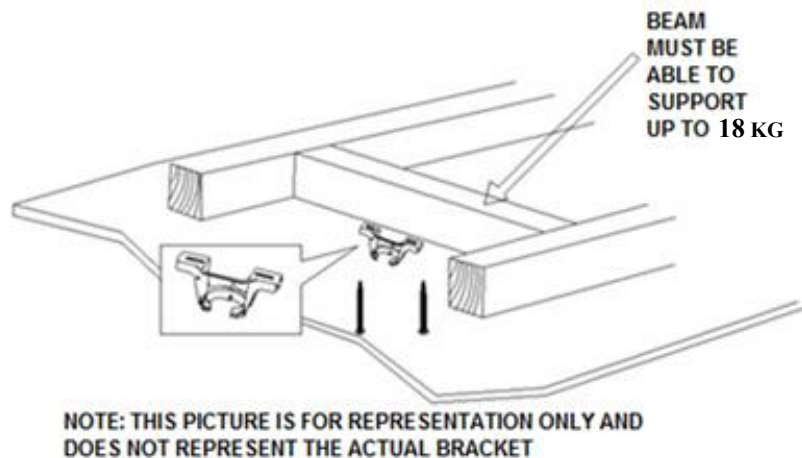

Fig. 2
- Install the hanging bracket to the ceiling joist or structure that is capable of carrying a load of at least 18kg, with two long screws provided. Ensure at least 30mm of the screw is threaded into the support. (Fig. 2)